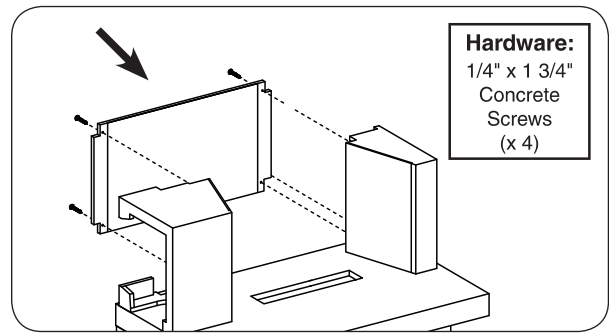

Fig. 16-1 Install inner rear-panel
5. Place the inner rear-panel in position against the rear of the fire box, then fasten using a Phillips screwdriver and the supplied concrete screws (see Fig. 16-1).